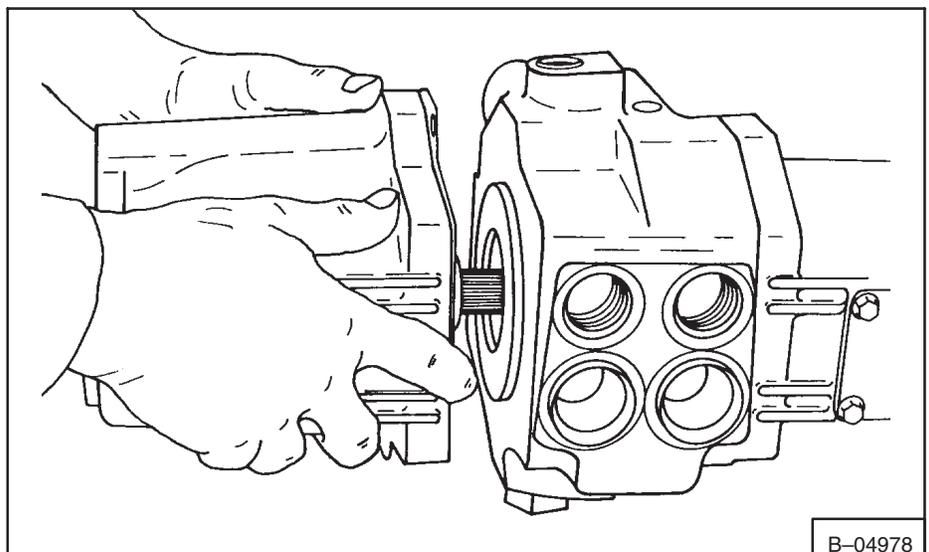

Fig. 3-100 Removing Pump Housing
8. Remove the hydrostatic pump housing (Fig. 3-100).